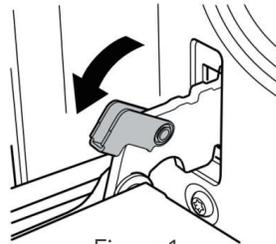

Figure 1
- Open the door to the maximum angle and pull the lock back at the hinge of the door (Figure1). There are two locks on both sides of the oven door.